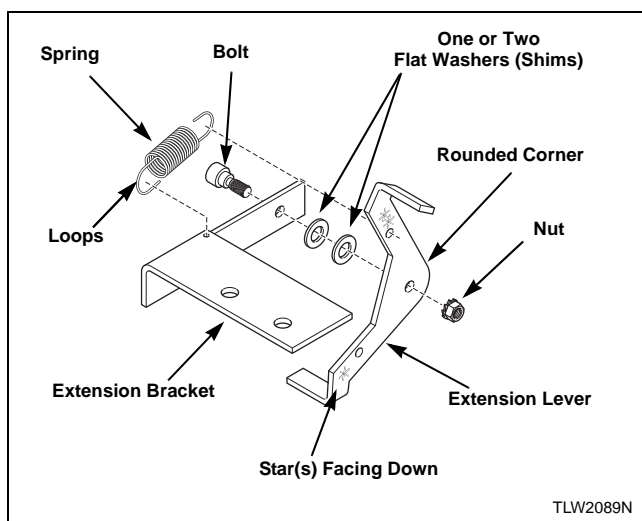

Figure 31
4. Install extension lever with rounded corner facing away from extension bracket using bolt, one or two flat washers (shims) (use number of washers included in kit) and nut. Refer to *Figure 31*. Make sure washers are flat against bracket.
6. Install extension spring in bracket hole and hole in upper arm of lever. Refer to *Figure 31*.